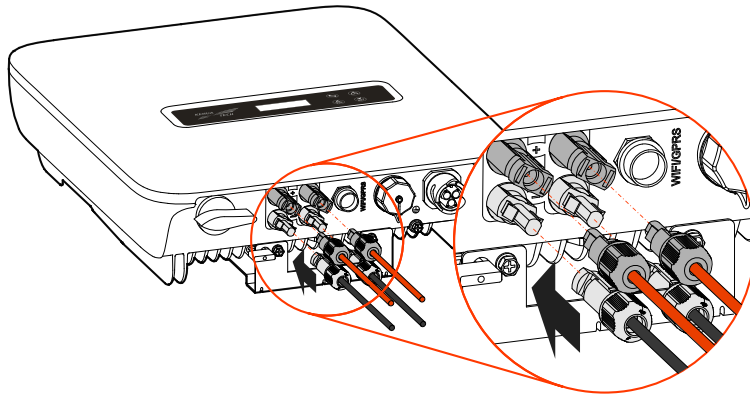

Figure3-19 Connect the DC connector
Step 6 Insert the positive connector and negative connector to the PV + and PV – terminals (as shown in Figure3-19) and tighten them. If there has a click sound, it means that the connector have been inserted properly.